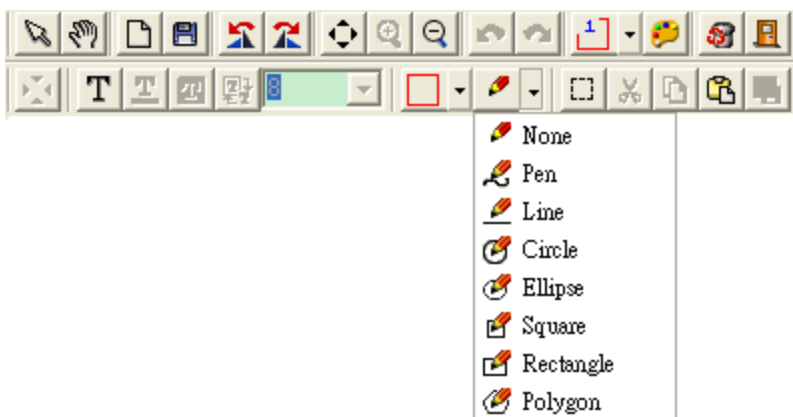

Fig 3-13 Draw Style
- ⊕ Draw Style: Various draw style to choose, such as Pen, Line, Circle, Ellipse...etc. See Fig 3-13.